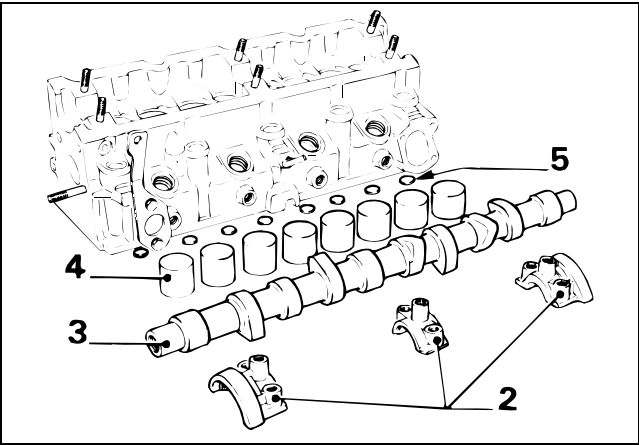

Figure 86
3. Remove the camshaft gear (Fig. 86, Item 1).